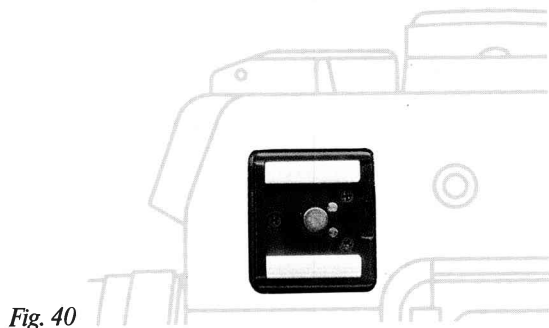
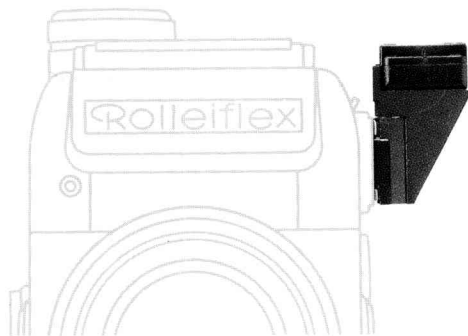

Fig. 40
Fig. 41
*Your Rolleiflex SL 2000 F offers several possibilities for use with a flash unit. It is most convenient to use a dedicated flash system. It not only synchronises via the flash shoe contact, but also by means of two contacts with the camera (fig. 40). The flash unit can be connected directly to the camera or via the right angle flash connector (fig. 41), or via an adapter cable (accessory). In this case the shutter speed should be set to "A". Apertures can be selected throughout the aperture range relating to the flash system used. The correct synchronisation is automatically controlled by the camera by using its own sensor to measure the required flash energy output through the lens. This fully automatic synchronisation gives you optimum performance.*